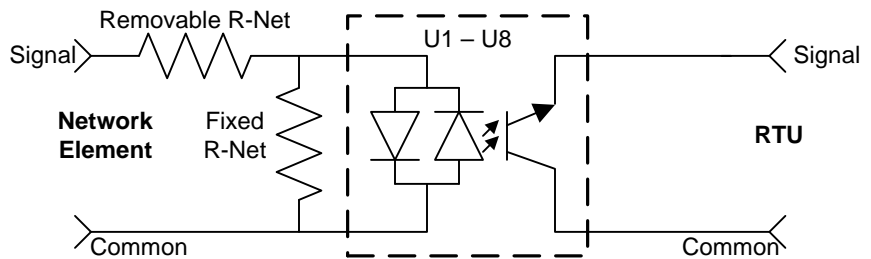

Figure 1 Typical Discrete Input
The Universal Discrete Adapter uses optoisolation circuits to isolate discrete inputs from a Remote Terminal Unit's (RTU) positive and negative battery voltages. With the discrete inputs isolated from the RTU, the Network Element (NE) or field wiring must provide the input signal voltage and common. Single Inline Package (SIP) resistive networks (R-Nets) match various input voltages to the isolation circuits in groups of four points. Figure 1 shows a schematic of a typical input circuit.